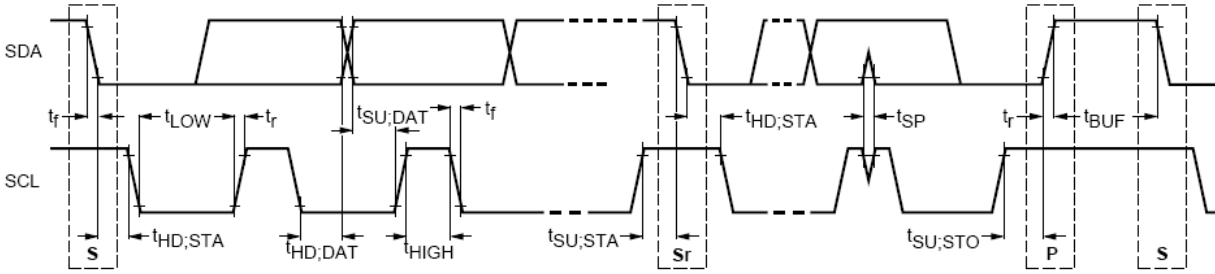
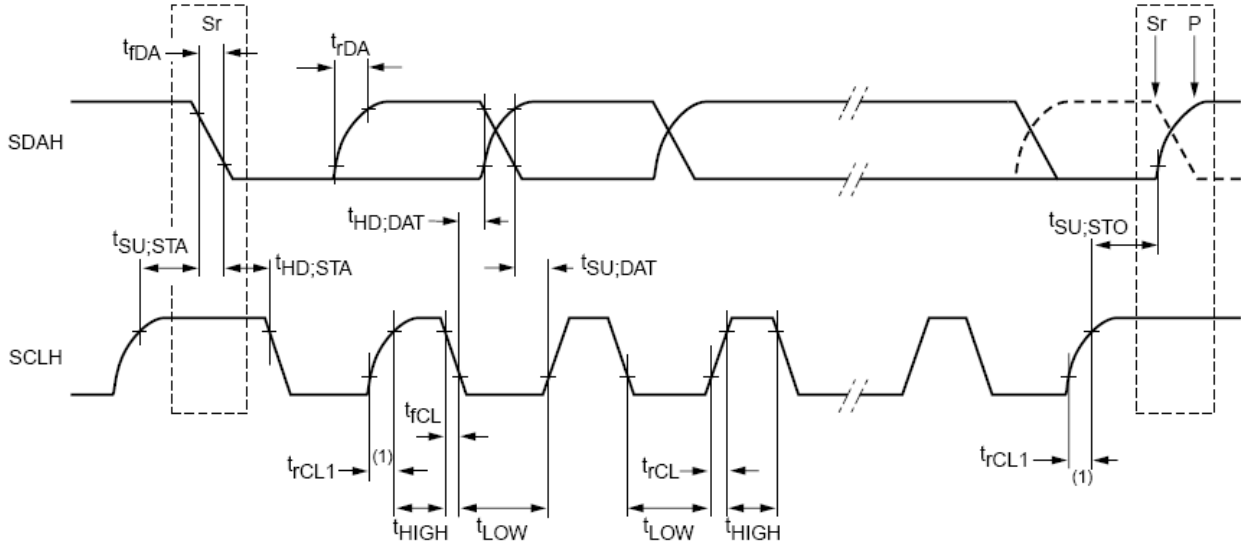

Figure 2. AC Characteristics, Standard and Fast Modes
Figure 3. AC Characteristics, High Speed Mode
- Refer to Figure 2 and Figure 3 for more information on AC characteristics.